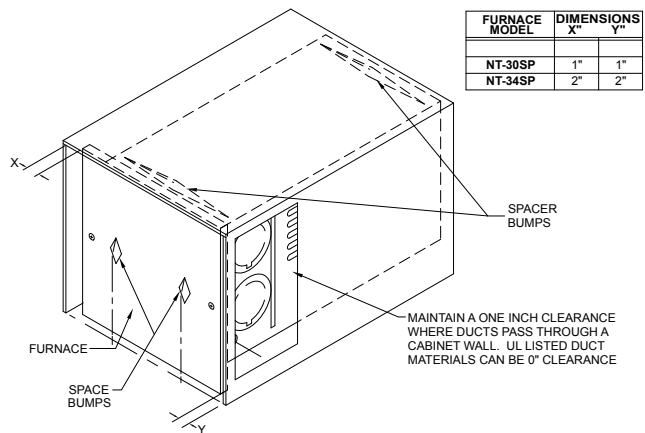

Figure 3
- Maintain a minimum of 1" clearance where ducts pass through any combustible construction such as, coach cabinetry. (See Figure 3.) **NOTE:** UL listed duct materials can be "0" clearance.